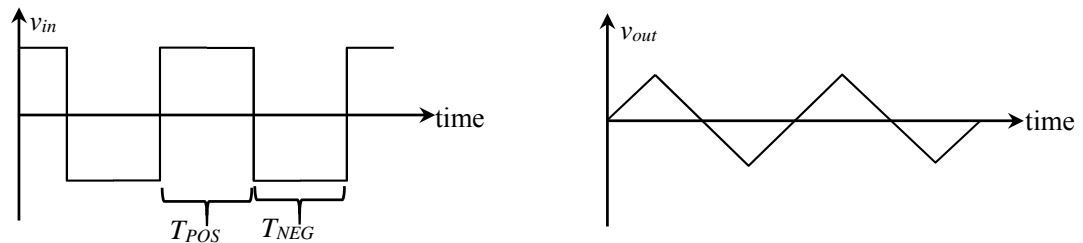

Fig. Q6a
- (a) Show an opamp circuit that can produce a triangular wave from a square wave input with 50% duty cycle, i.e.  $T_{POS} = T_{NEG}$ , as shown in Fig. Q6a.